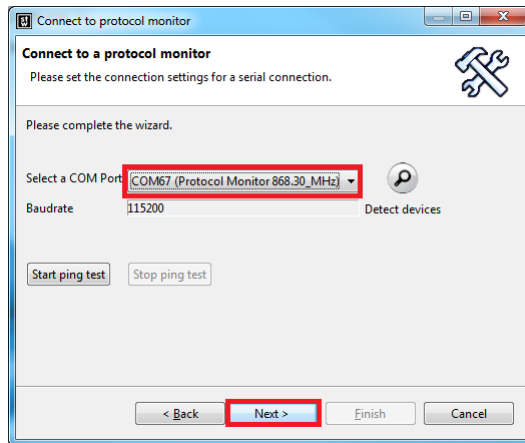

Figure 52: Select the protocol monitor device
(4) Select the protocol monitor device and press 'Next' as shown in figure 52.